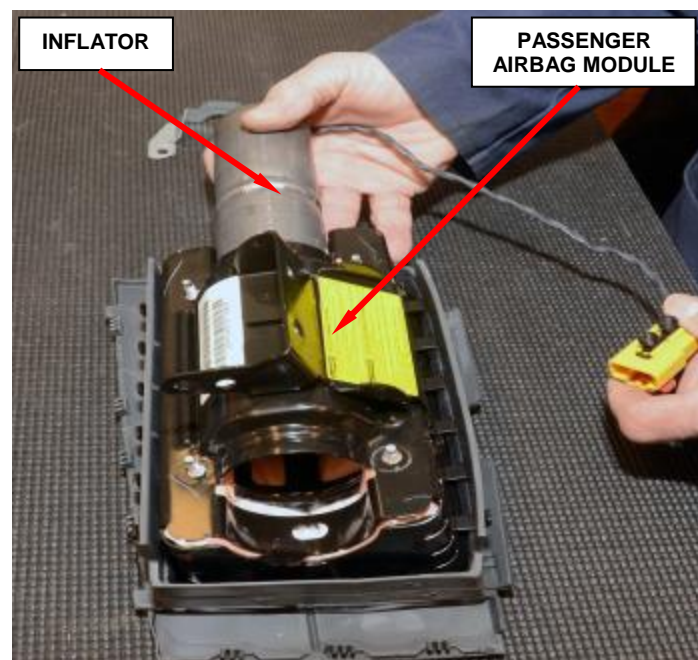

Figure 72 – Inflator Removal
f. Slide the inflator out of the passenger airbag module (Figure 72).